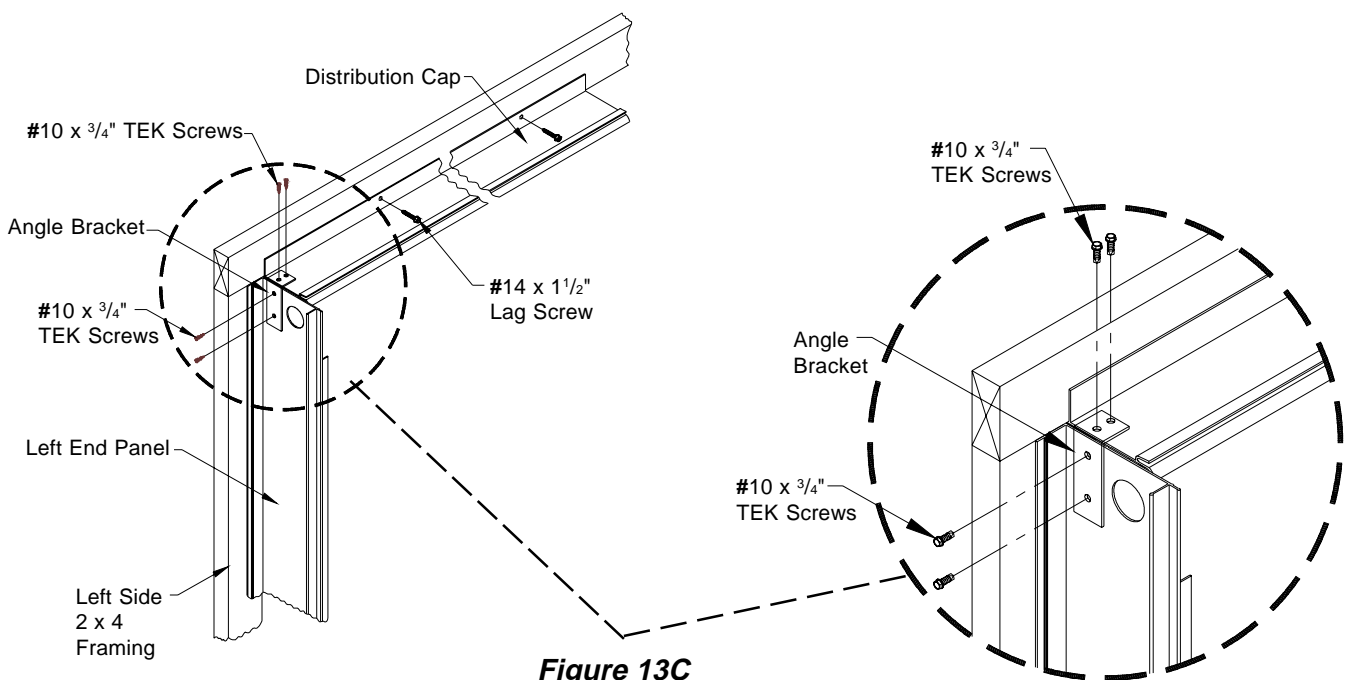

Figure 13C
- 20) Holding the left end panel tight to distribution cap, place the long side of the Angle Bracket on the end panel and the short side on top of the distribution cap. **See Figure 13C.** Attach the angle bracket to the distribution cap using (2) #10 x 3/4" TEK Screws (provided). Fasten angle bracket to end panel using (2) #10 x 3/4" TEK Screws (provided).